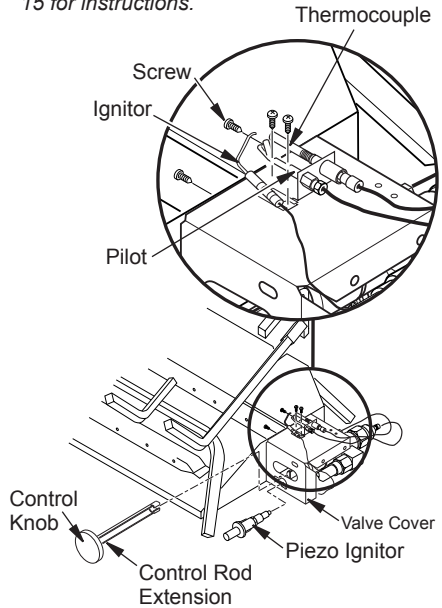

Figure 13 - Installing Cover, Control Knob and Piezo Ignitor
10. Install thermocouple, pilot, and ignitor onto valve cover as shown in Figure 13. Use the provided screws.